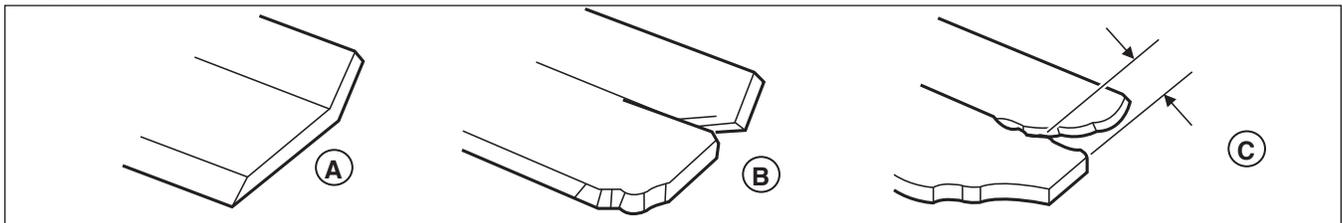

Figure 28. Inspecting the Mower Blade Air Lifts
- A.) Has more than .5" (12,7 mm) of the mower blade metal removed from previous sharpening or wear (D, Figure 28).
- B.) The air lifts are excessively eroded (B & C, Figure 28) and the notch (C) is .25" (6,35 mm) deep or greater.